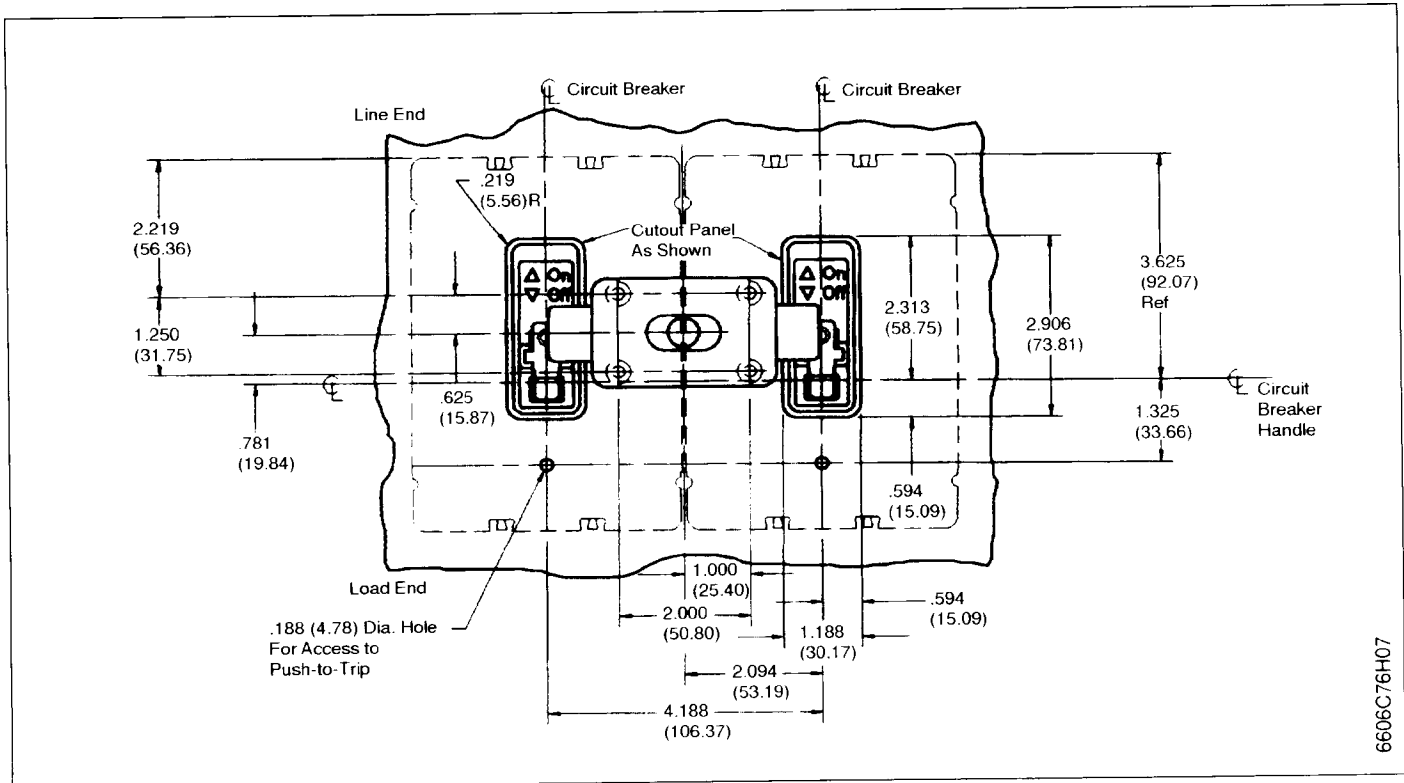

Fig. 2-4. F-Frame Sliding Bar Interlock Installation Details
- 2-3. Refer to Fig. 2-4 (F-frame), 2-5 (J-frame), or 2-6 (K-frame) and cut out enclosure cover to correct circuit breaker and trip unit escutcheon (J-/K-frame) dimensions.
① Countersink holes 82° to .475 (12.06) Dia.
- 2-4. Referring to Fig. 2-4, 2-5, or 2-6, and Table 2-1, drill and countersink four interlock mounting holes in the back of the enclosure front panel.